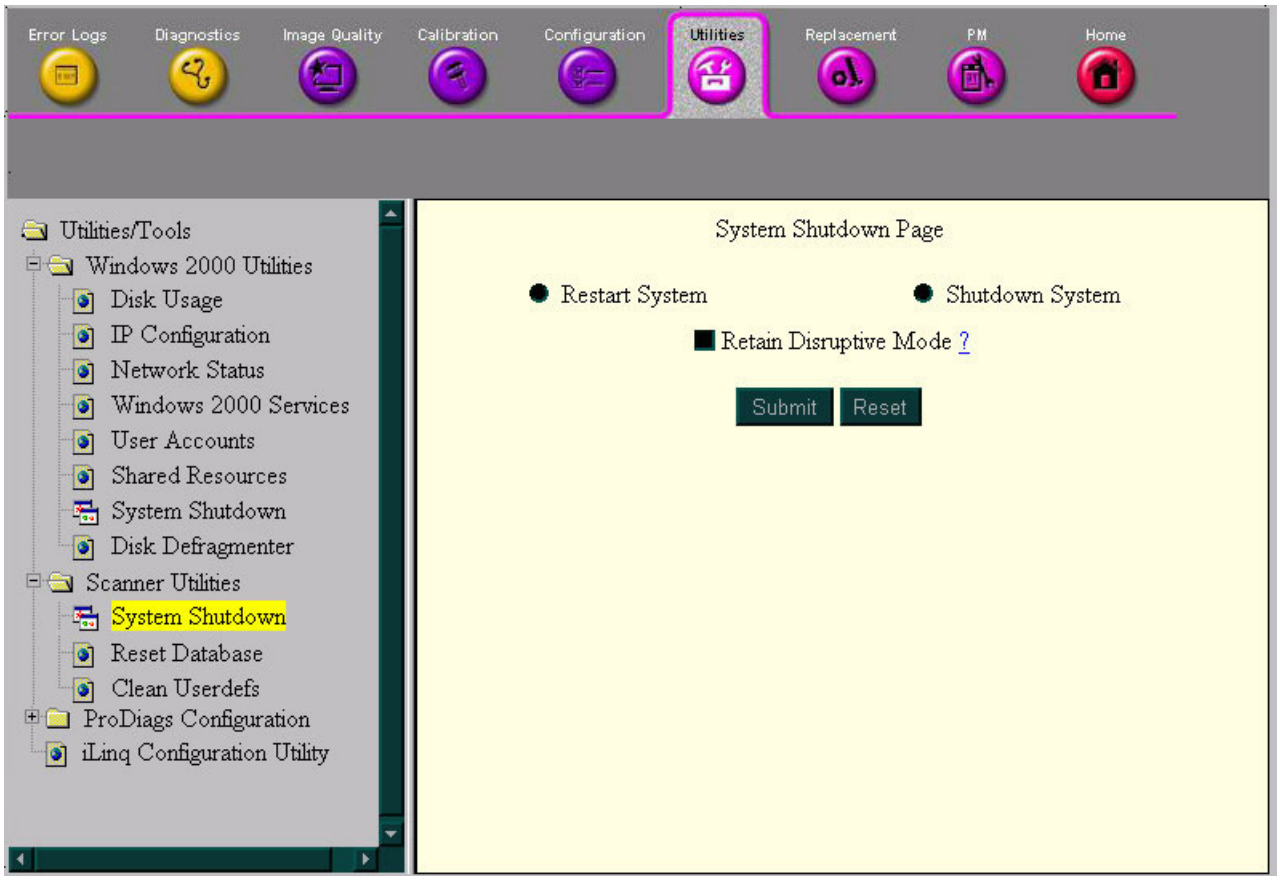

Figure 7-88 System Shutdown
- **System Shutdown** - There are three options provided (see Figure 7-88):
- **System Shutdown** - There are three options provided (described on previous page - also see Figure 7-88)